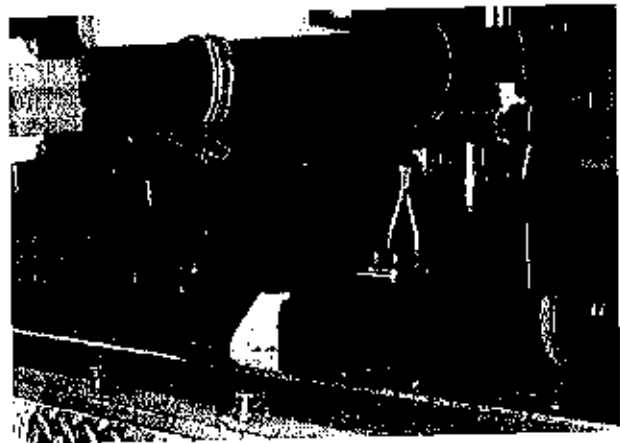

Figure 20: Safety Bar Engaging Safety Hook
5. Push the cot forward until the load wheels are on the compartment floor and the safety bar passes the safety hook as shown in Figure 20.